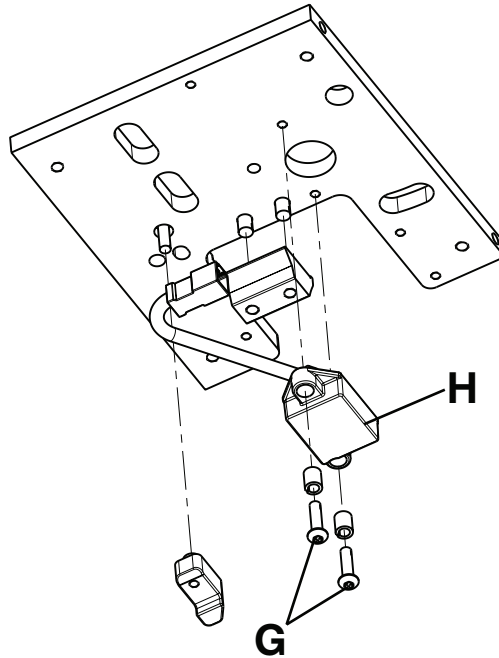

Figure 25: TPS assembly bottom view
- Using a 1/4" ratchet and a T25 Torx driver, remove the two button head cap screws (G) that secure the TPS assembly (H) (Figure 25 on page 58).